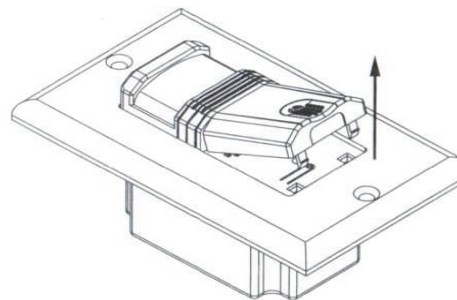

Figure 6: Lift the screwdriver upward to open the cover.
2. Gently lift the screwdriver upward to unlatch the cover (see figure 6).